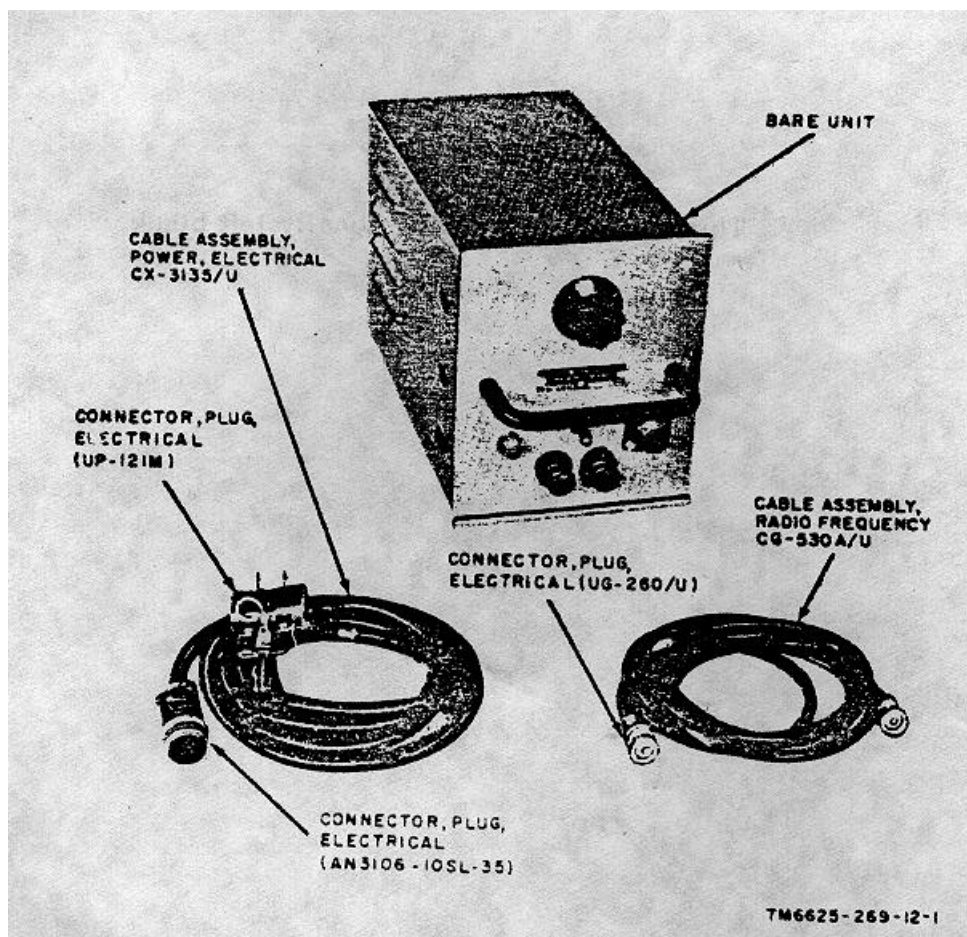

Figure 1. Calibrator, Crystal TS-810/U, bare unit and cable assemblies.
This manual describes Calibrator, Crystal TS-810/U (fig. 1) and covers installation, operation, and first and second echelon maintenance. It includes instructions for operation under usual conditions, cleaning and inspection of the equipment, and replacement of parts available to first and second echelon maintenance personnel.
a. Purpose. Calibrator, Crystal TS-810/U (fig. 1) is a portable source of stable, positive pulses for use as accurate calibration markers. The repetition frequency of the output pulse is variable in steps between 1 megacycle (mc) and 100 cycles per second (cps). The corresponding periods in microseconds (usec) are variable in steps between 1 and 10,000 μ sec.
- (1) Cathode-ray oscilloscope sweep linearity.
- (2) Calibration of oscilloscope sweep.
- (3) Proper operation of pulse analyzer groups.
- (4) Calibration of signal generators.
- (5) Decade-frequency-range switches.